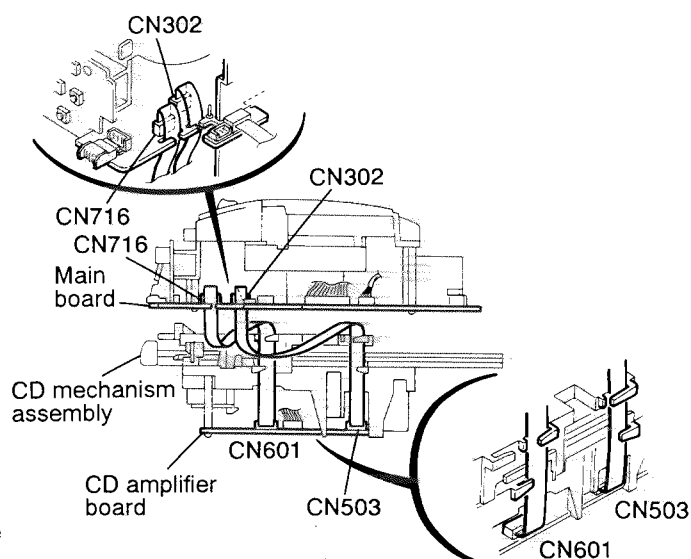

Fig. 5-6
2. From the connectors CN716 and CN302 on the main board, remove the card wire outgoing from the connectors CN601 and CN503 on the CD amplifier board (See Fig. 5-6).